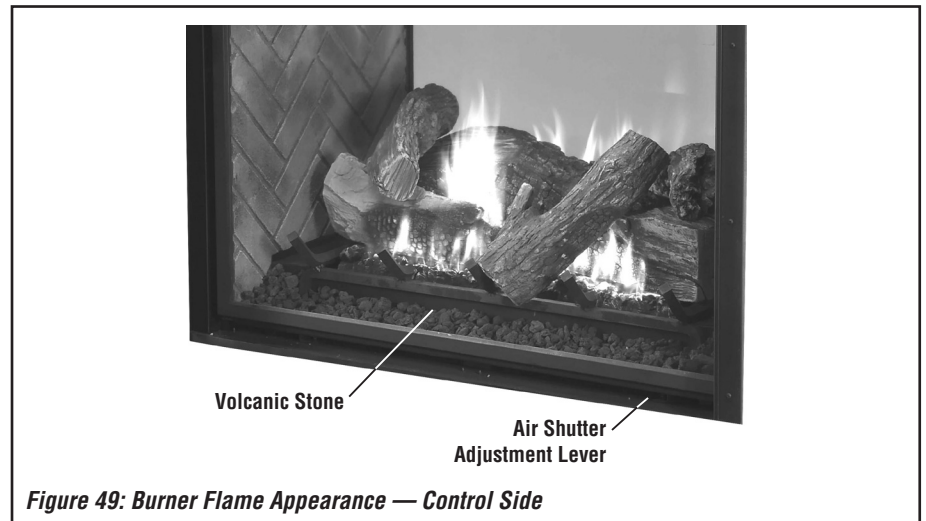

Figure 49: Burner Flame Appearance — Control Side
2. Allow the burner to operate for at least 30 minutes while continuously observing the flame to ensure that the proper flame appearance has been achieved (see **Figures 49 and 50**).
3. Adjust the air shutter using the lever on the lower right side of the firebox on the control side (**Figure 49**).
Note: See **Figures 49 and 50** for proper burner flame appearance.